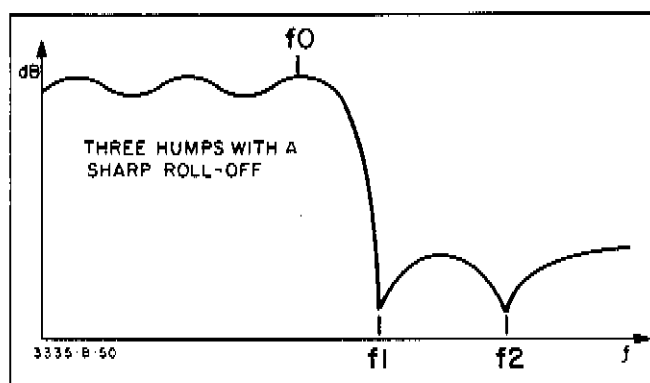

Figure 5-4. Ideal Filter Characteristics.
- h. With the Tracking Generator, sweep the filter across the band edge (roll off) and adjust the right-most adjustment (see Table 5-5) for the best approximation of an ideal band edge as shown in Figure 5-4. Two examples of an improperly adjusted filter are shown in Figure 5-5.